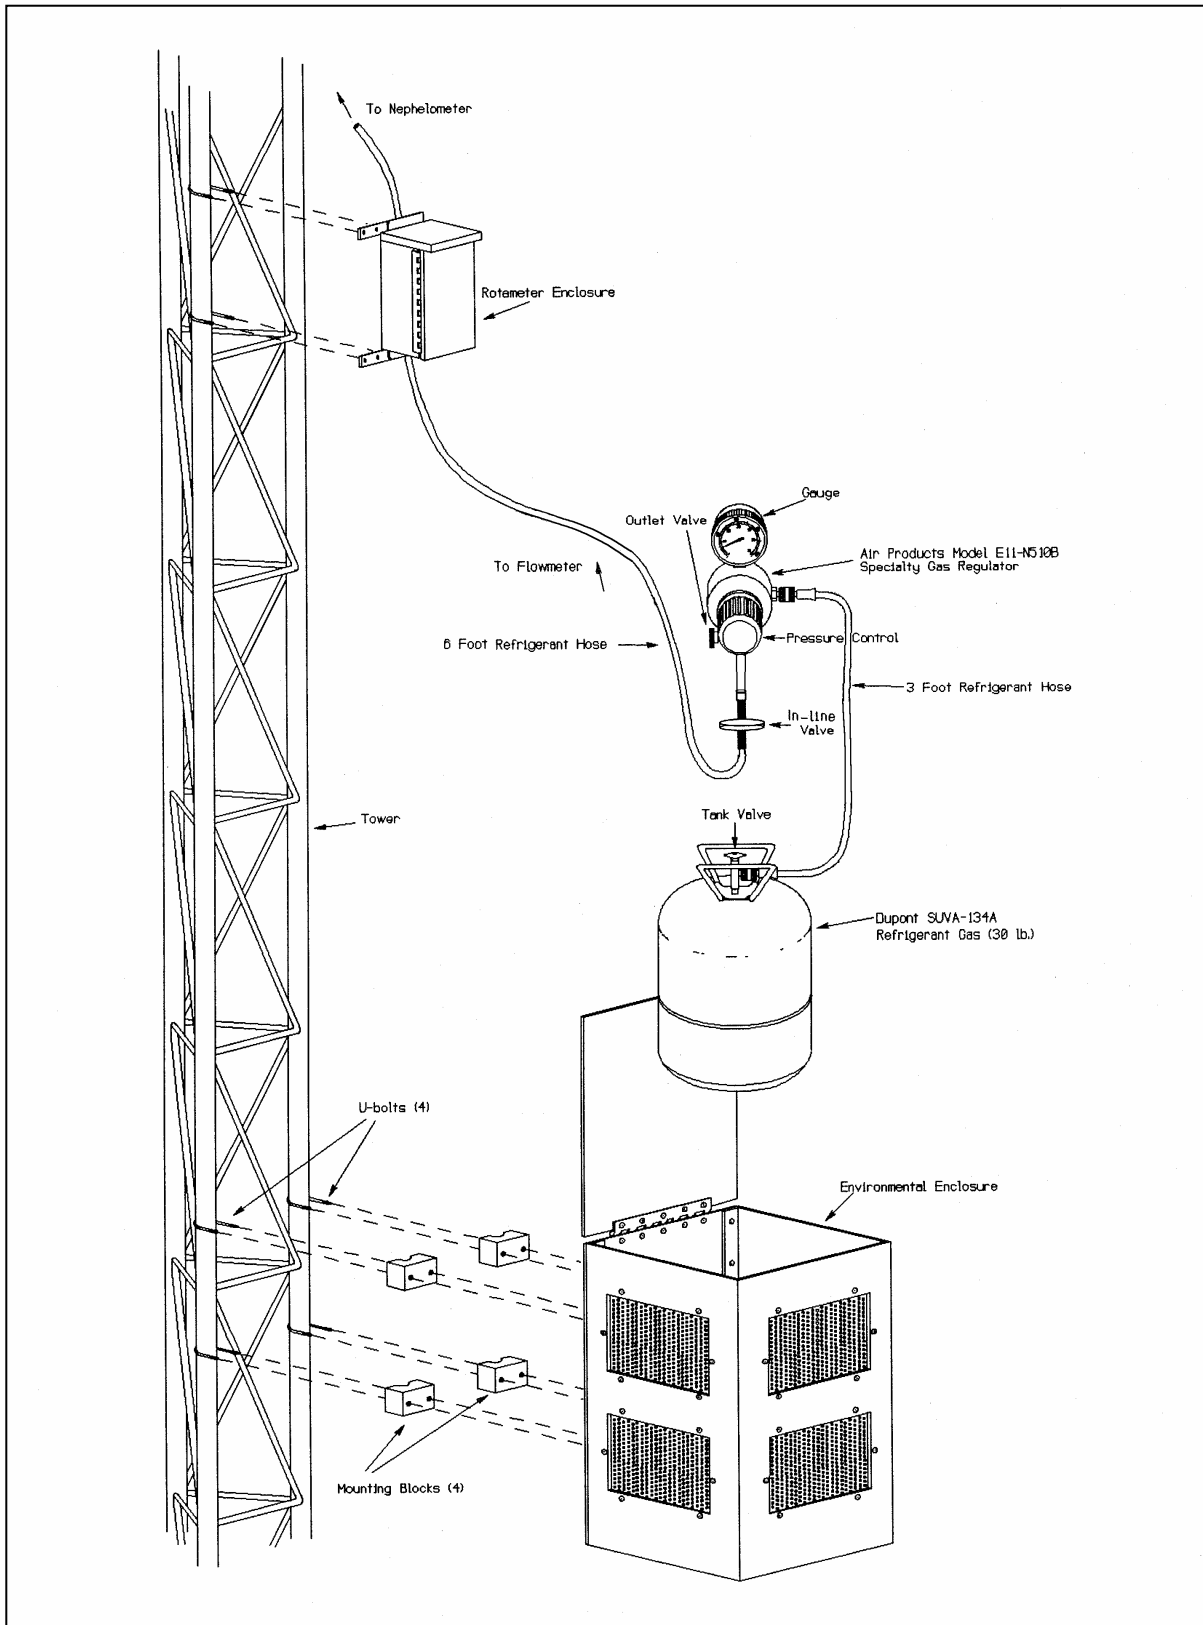

Figure 4-8a. Span Gas Calibration System.
The span gas calibration system is used by the site operator to perform scheduled span and zero calibration checks of the nephelometer. The system, illustrated in Figures 4-8a and 4-8b, includes the following components:
**ATTACH THE ROTAMETER ENCLOSURE** Attach the rotameter enclosure to the tower at a height of approximately five (5) feet (comfortable viewing level) using the supplied U-bolts (refer to Figure 4-8a).
**ATTACH THE SPAN GAS HOSES** Begin by connecting the pressure regulator inlet to the span gas tank outlet using a short length of refrigerant hose. Then, attach the in-line filter assembly female-flared fitting to the pressure regulator output port. Connect the rotameter inlet to the male-flared fitting of the in-line filter assembly using a short section of refrigerant hose. Finally, connect the rotameter outlet to the nephelometer span gas inlet with a long section of refrigerant hose. Use a 9/16" open-end wrench or a crescent wrench to tighten the female-flared fitting connection to the pressure regulator. All other connections should be hand-tightened. Refer to Figures 4-8a and 4-8b.